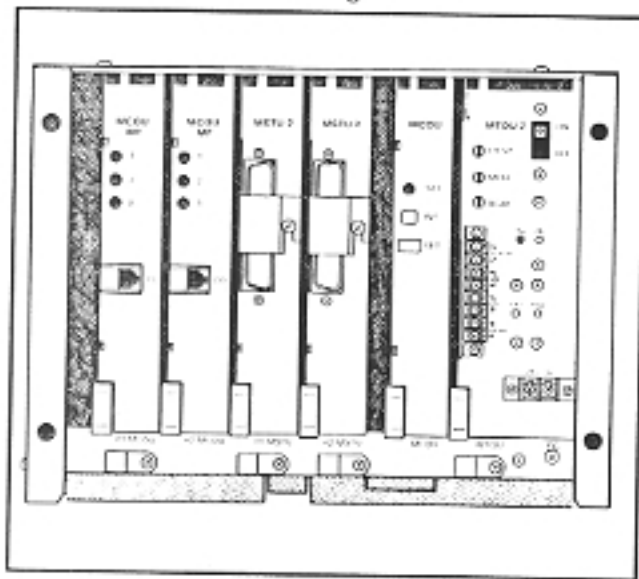

FIGURE 10—MKSU WITH PCBs
06.21 Refer to Figure 10, the MTOU front panel provides the connection point for the 24 VDC input from the external power supply. Therefore, it must be installed first.
06.22 Install the MTOU PCB in its proper slot in the MKSU as shown in Figure 10.
06.43 Install the MCDU in the correct MKSU position (Figure 10).
06.44 Follow the position arrangement in Figure 10, and install the required MSTU PCBs.
06.45 Select the proper type of MCOU PCB (MF or DP) and install the required number in the positions shown in Figure 10.